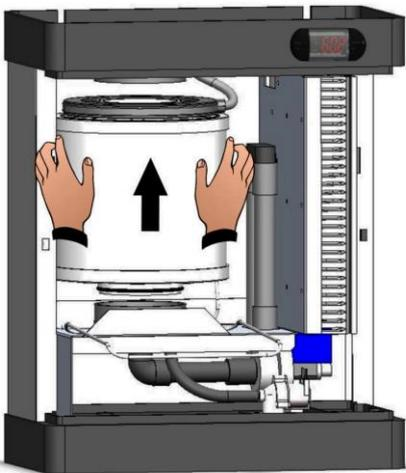
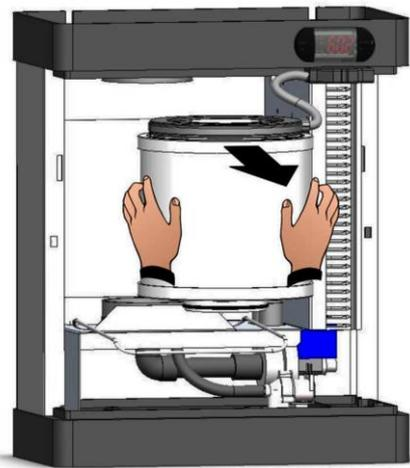

Fig. 33
Fig. 34
6. Remove the cylinder from the lower flange extracting it upwards (Fig. 33) and remove it from the humidifier (Fig. 34).